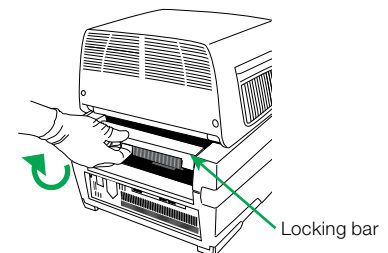
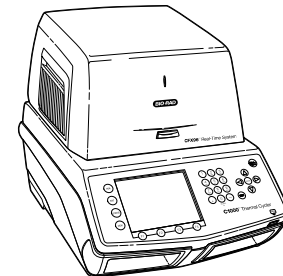

Fig. 2. Locking the CFX96 module into place.
Fig. 3. The CFX96 module positioned on the C1000 chassis.
4. Reach around the thermal cycler and pull up the locking bar (Figure 2) until it is flush with the sides of the module bay. This action moves the reaction module forward, locking it into place (Figure 3).